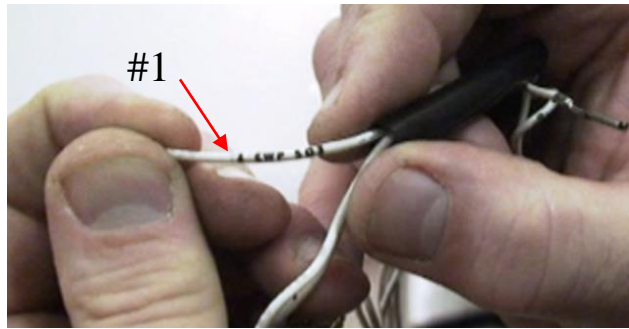

Figure 9A
23. Attach wire harness to the new gum and mint tray. Match the wiring for Motor 1 to the new Motor 1 on the gum and mint (Figure 9B, Red Circle). This wire has a silver connector and a number on it (Figure 9A). Continue connecting the wiring harness to each additional matching motor. Figure 8C, shows your new connections for motors 4 and 5.